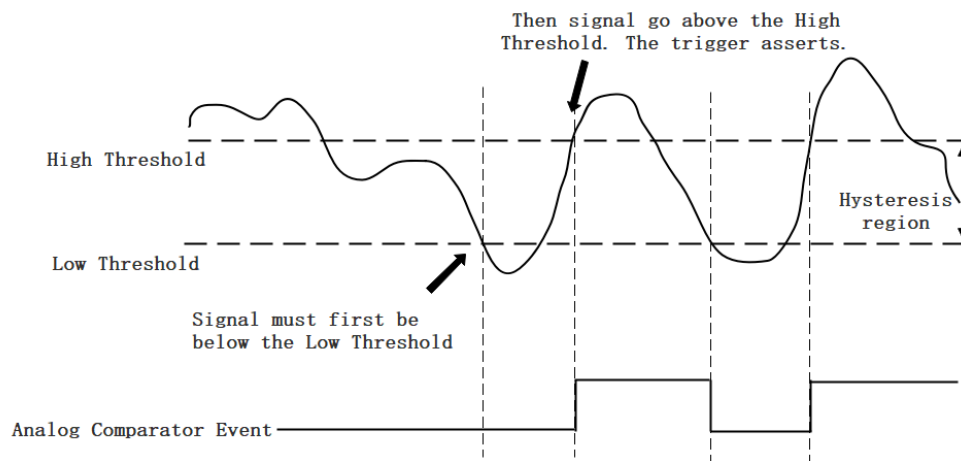

Figure 18 Hysteresis with Rising Slope Trigger
*Hysteresis with Rising Slope Trigger:* The Hysteresis comparator output is high when the signal must first be below the low threshold, then goes above the high threshold. The output will change to low when the signal goes below the low threshold as shown in Figure 18.